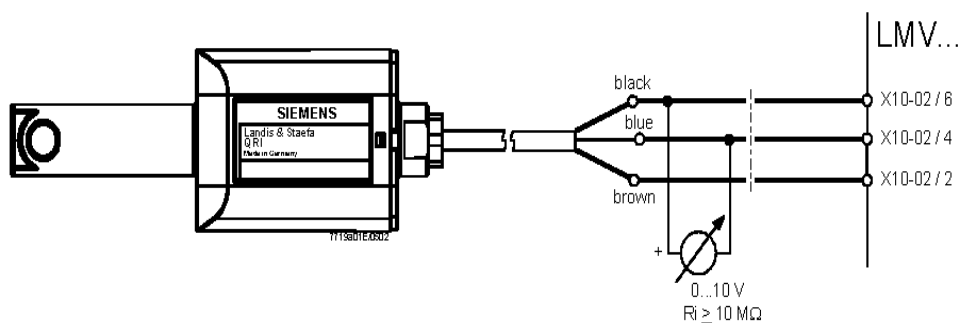

Fig. 7 - Detection with detector QRI...
4. VD can be mounted rotated by 180°, fig. 7.